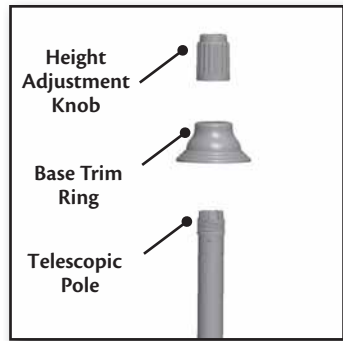

Figure 6
1. Remove the height adjustment knob from the telescopic pole by turning it counter clockwise. Also remove the cord clip. Slide the base trim ring onto the pole. Reinstall the height adjustment knob and cord clip. Figure 6.